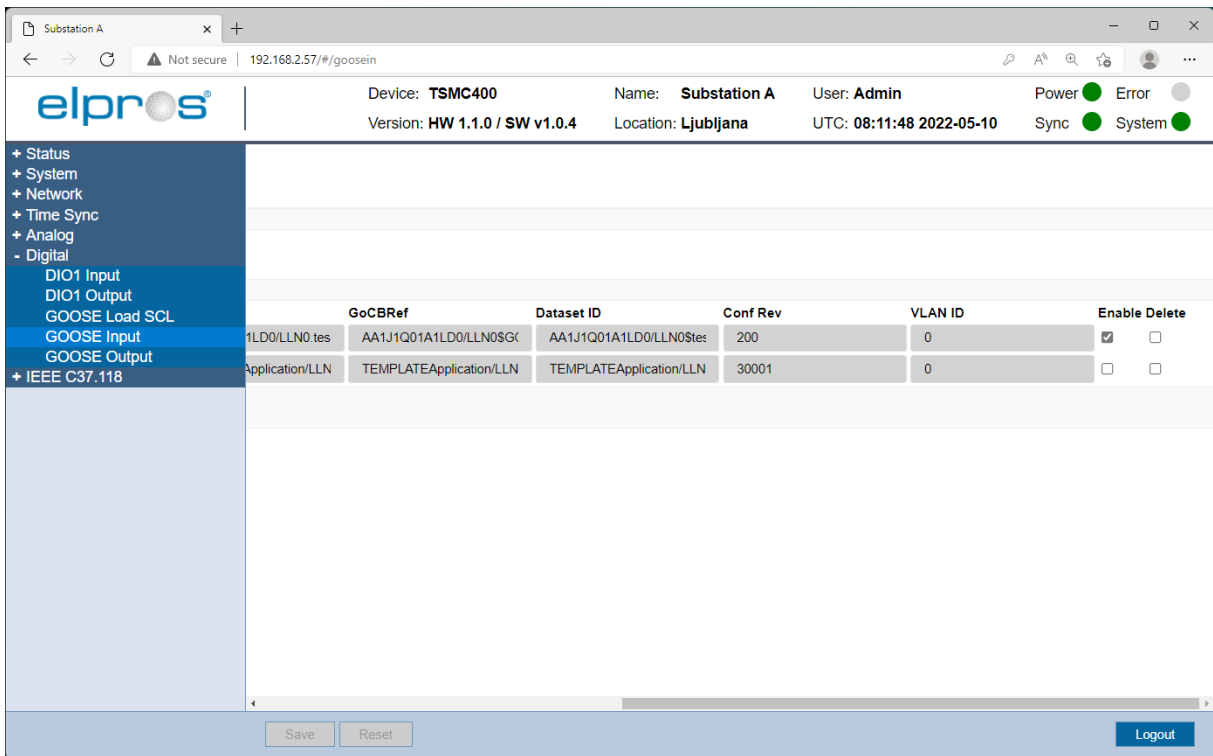

Figure 36: GOOSE input configuration 2/2
1. Tick the “Delete” box next to the subscriber configuration that is to be unsubscribed / mapping changed, see Figure 36.